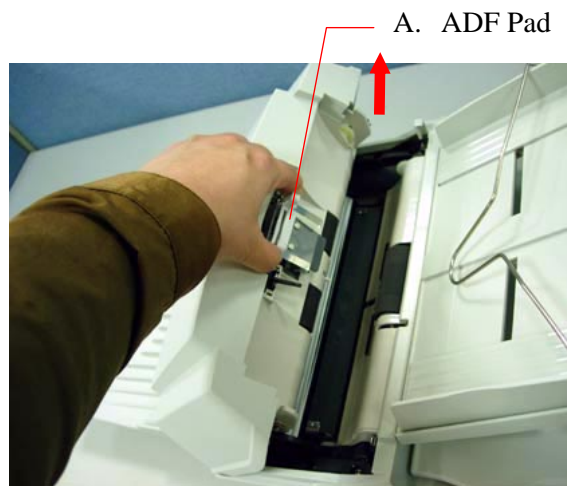

Figure 6-3 Remove the ADF Pad
2. Remove the ADF snap-in pad module by pulling out the upper part of the pad clamp as shown in Figure 6-3.